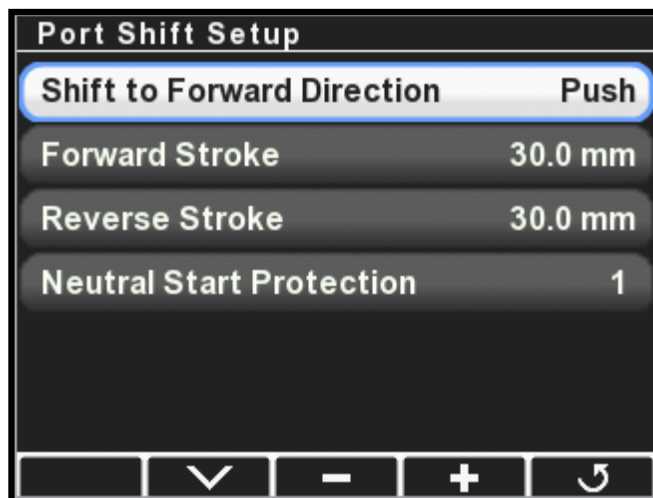

Figure 6-2. Shift setup screen.
5. For each shift actuator set the Shift to Forward Direction parameter (figure 6-2) to Push or Pull to match the direction the actuator is required to move to engage *forward* gear. Don't adjust the other parameters yet.